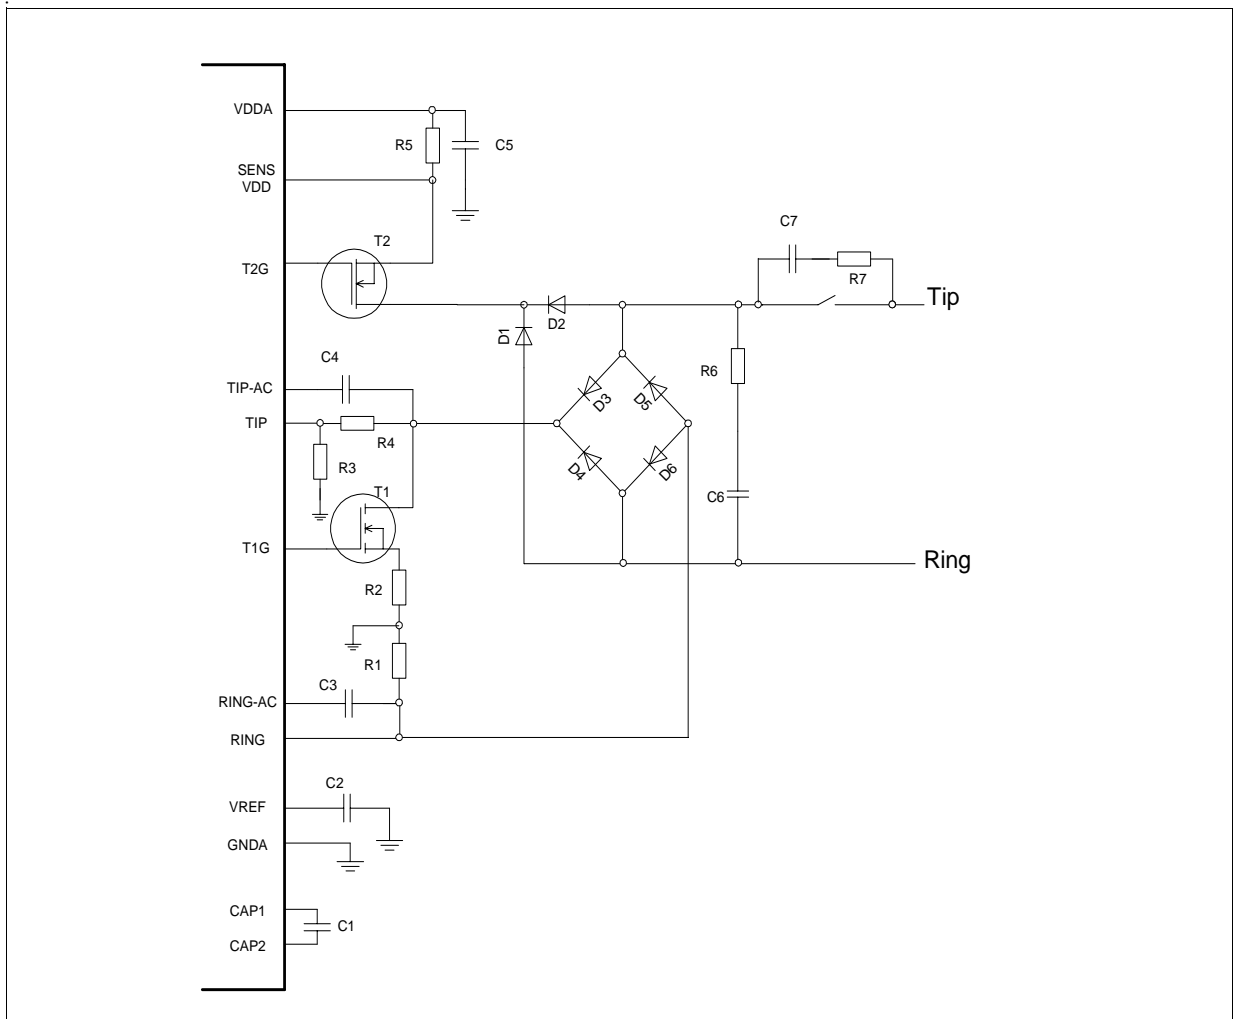

Figure 5-16 Connection of ALIS-A to Telephone Line
**Figure 5-16** shows the external components required to connect the ALIS-A to the telephone line. Component values shown are typical. Transistor T1 modulates the loop current and synthesizes the impedance. Transistor T2 regulates the supply voltage. Near Tip, note the relay that serves as hook switch.